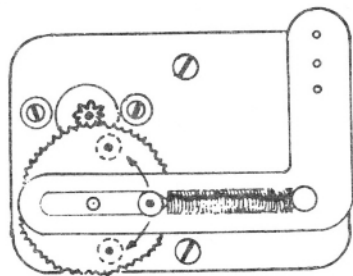

FIG. 1.
Refer to Fig. 1 during the following steps and solder each component in place using the solder provided and a 25 to 40 watt iron.
4. Install the two GC-4008 transistor in holes 19, 20, & 21, and holes 22, 23, & 24. Note the small metal tab on the transistor body and orient these transistors such that the position of tabs corresponds to Fig. 1.
Looking down on the unit while it is operating, you will notice that the elevator control take-off point (the brass fitting mounted to the large gear) is traversing an arc. Note that as the rudder control at the transmitter is moved to the left or right, the arc moves to one side or the other of the center line of the actuator. Adjust the rudder neutral at the transmitter in accordance with the manufacturer's instructions until the arc is centered with the centerline of the actuator. Note that the arc grows longer if the pulse rate is slowed down at the transmitter (up elevator) and shorter if the pulsing is speeded up (down elevator). Adjust the neutral elevator pulse rate at the transmitter until the arc length corresponds to that shown on Fig. 1. With the settings outlined above the elevator and rudder push rods installed, the unit should have no tendency to cycle through during normal control functions.